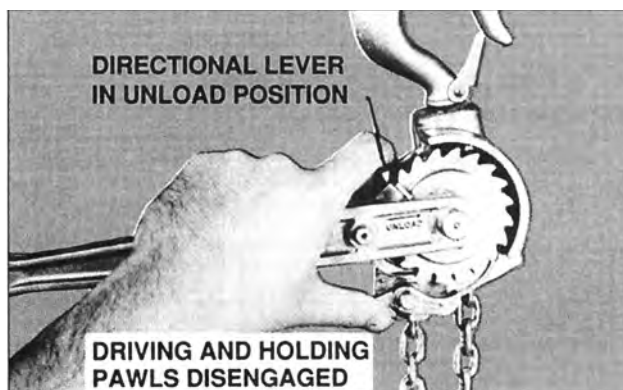

Figure 2. Free Wheeling Position
1. Free Wheeling: In this condition the chain can be pulled through the Rigger in either direction by hand. This allows quick and easy attachment of the load. Set directional lever to unload position and release pawls as shown in Figure 2.